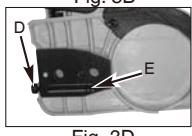

Fig. 3D
3. Using a screwdriver, turn the adjustment screw (D) COUNTERCLOCKWISE until the TANG (E) (projecting prong) is to the end of its travel (Fig. 3D).